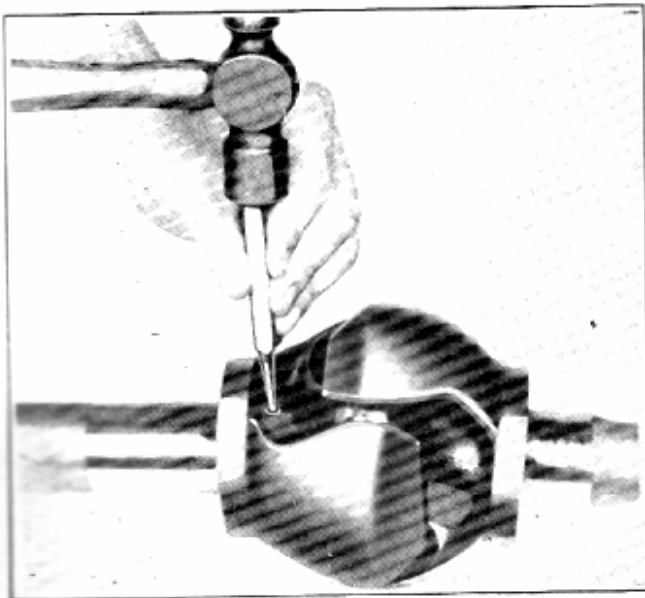

Fig. 18—Driving Out Retainer Pin
2. Using a drift punch and hammer, drive out the retainer pin which locks the centre ball retainer pin as shown in Fig. 18.